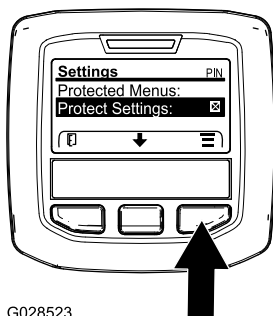

Figure 24
1. From the MAIN MENU, use the center button to scroll down to the SETTINGS MENU and press the right button (Figure 24).